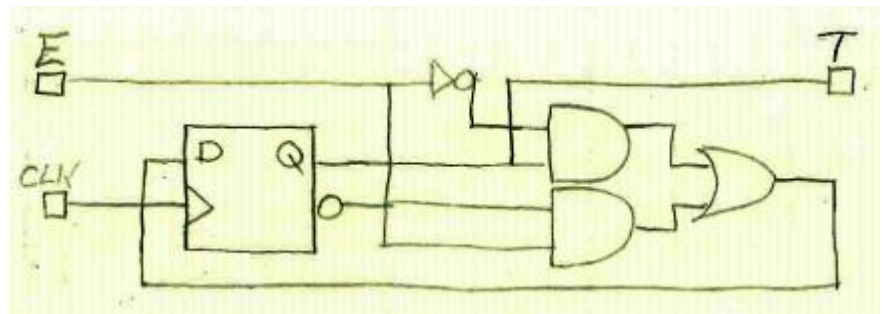

Figure 2
- [2 points] Perform the above analysis for Figure 2.